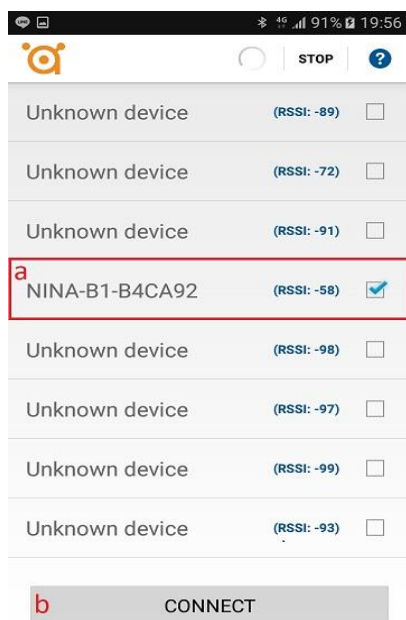

Figure 3
4. Select RIFA BLE device on the list (check BLE mac address) and click the “CONNECT” button as Figure 3.